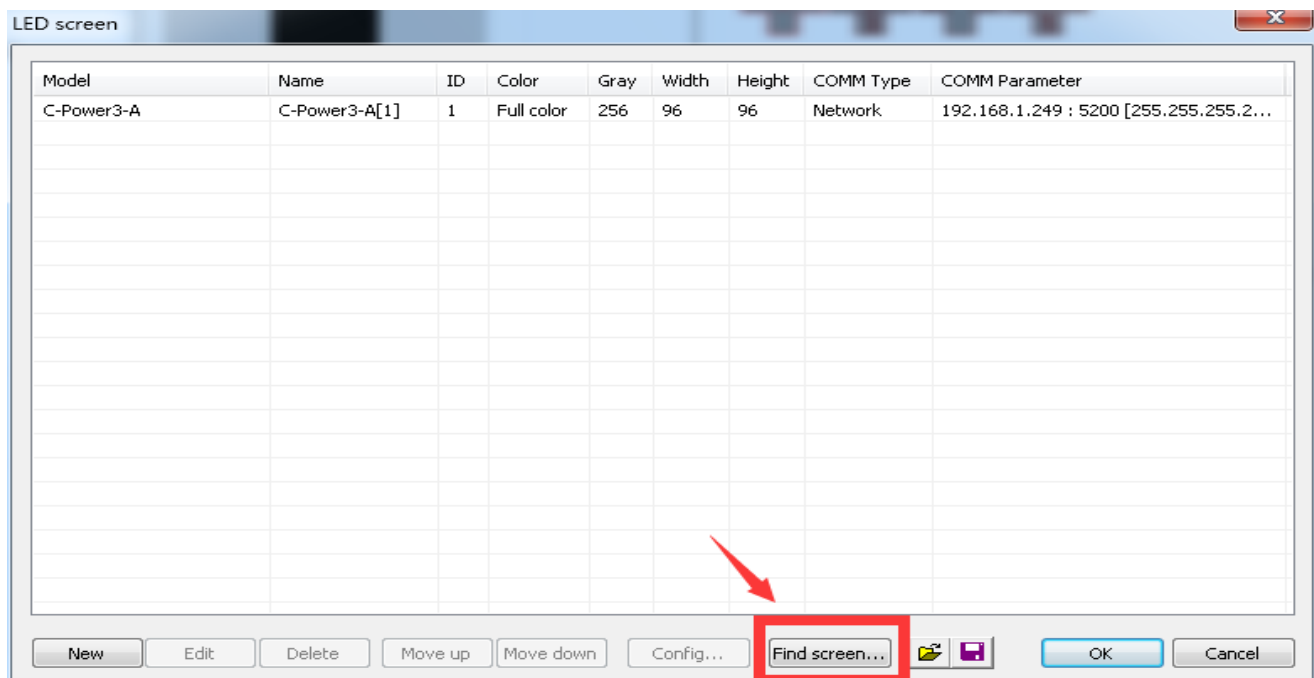
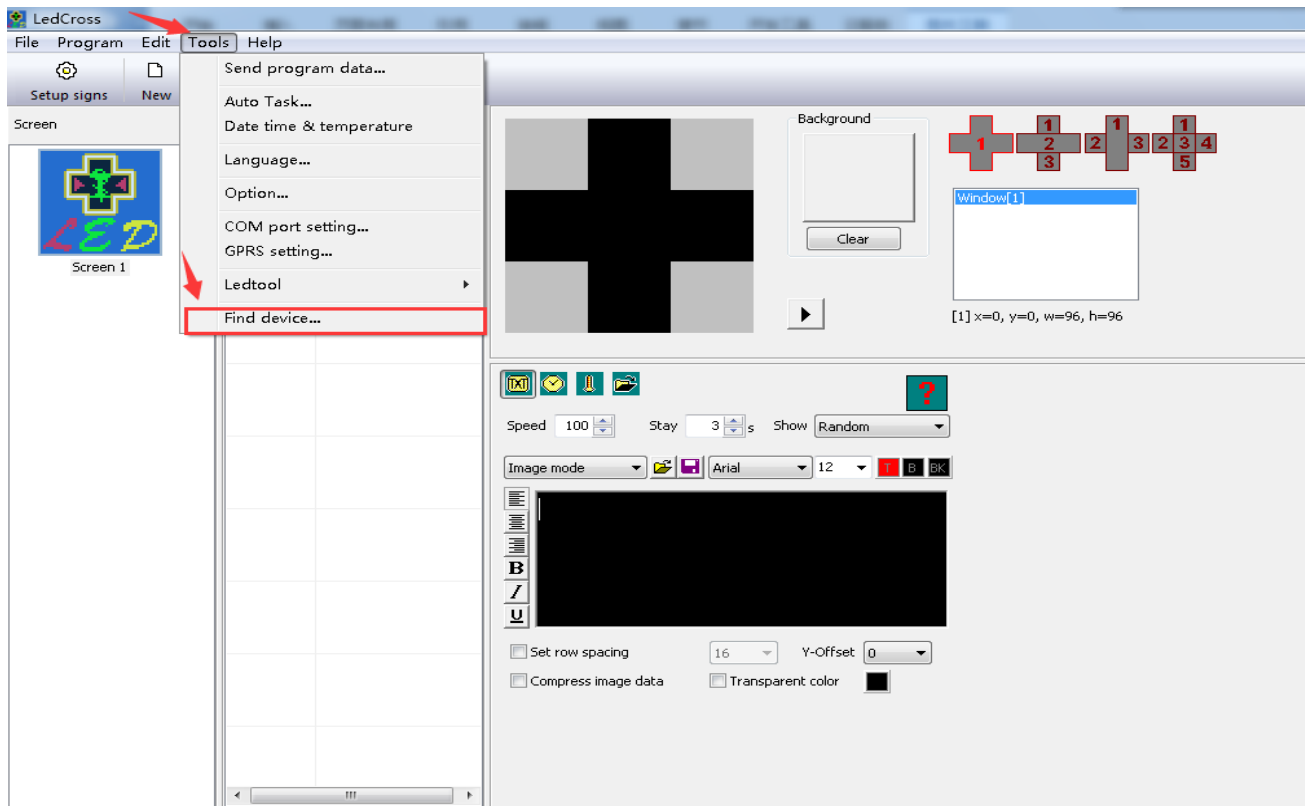
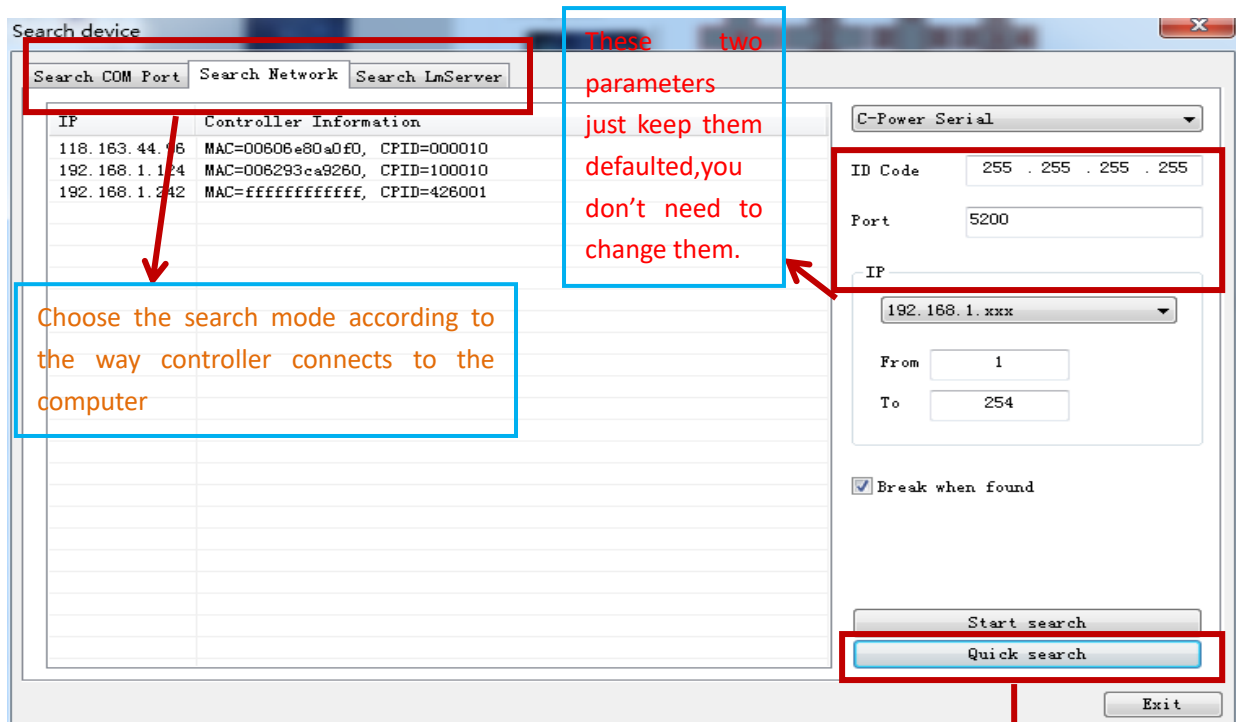

Figure 4
Figure 5
Figure 6
- 3) If the controller has connected into the computer(COM port or network port), click “Find screen” button(or click “Tools”-“Find device” on the menu), the “search device” dialog box pops up, so we can search the devices which have connected into the computer.as shown as figure 4,figure 5,figure 6.